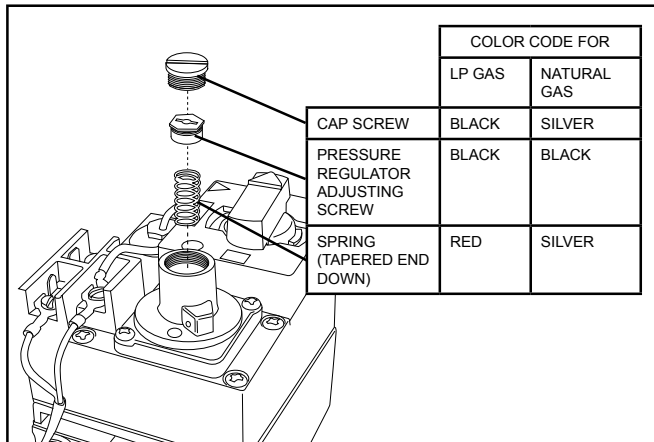

Figure 1
Remove and discard cap from gas valve/regulator with a flat blade screw driver by turning the cap counter-clockwise. Remove the regulator adjustment screw in the same manner. See Figure 1. Do not discard the screw after removing. Remove and discard the spring that is located under the adjustment screw. Remove the spring kit from the conversion kit, and compare the part number of the kit to the parts list. After confirming the spring kit is correct for the heater model you are converting, install the new spring with the adjustment screw about (5) full rotations in the clockwise direction. Place conversion label supplied with the spring kit on the valve near the adjustment screw cover.